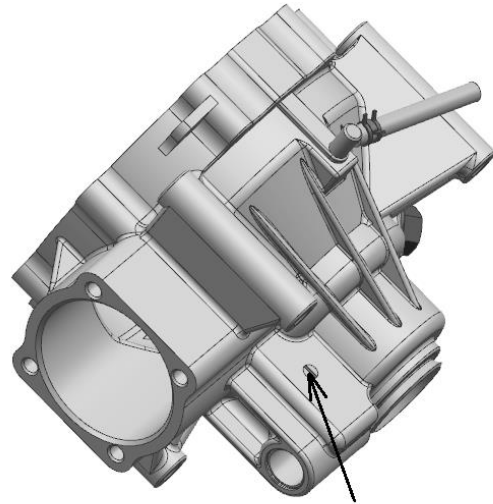

Fig 10
11.Loosen the lock shift pin (NO.46). →Fig 10